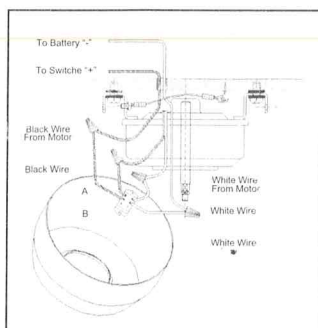

Figure2
- Connect BLACK motor wire to BLACK wire from A position of reversible switch. See Figure 2